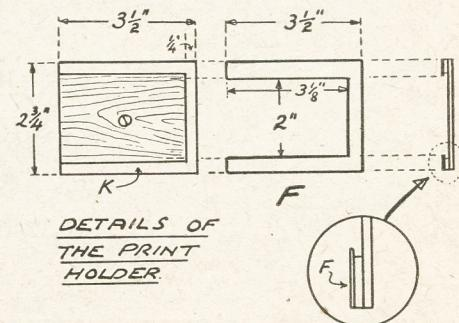

Fig. 3—Details of the holder parts
the end and top and bottom and then upon this gluing a piece of card cut as (F) Fig. 3. The inside measurements are $3\frac{1}{8}$ ins. by 2ins.—a trifle narrower than the first card. This forms the lip as shown in the inset sketch.